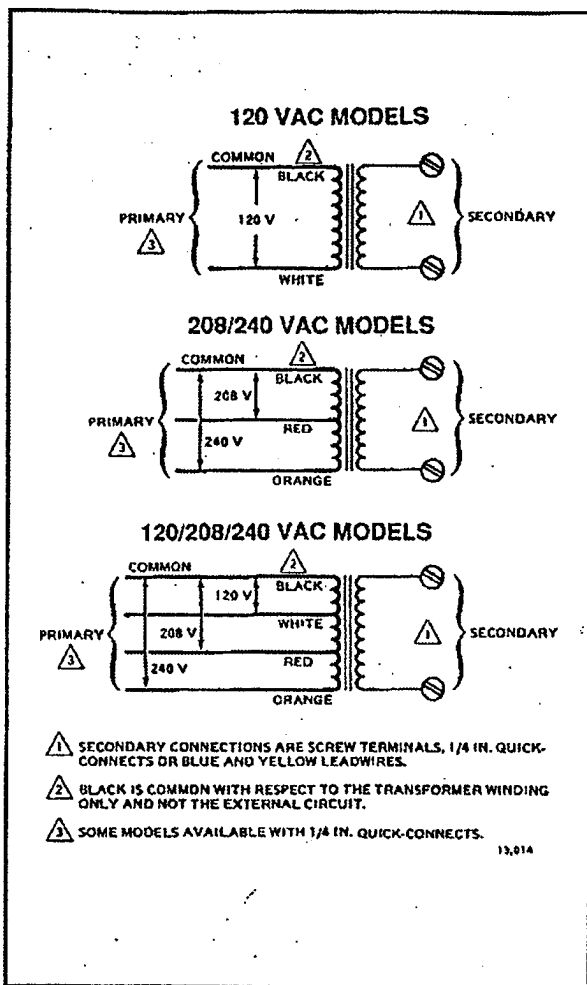

Fig. 1—Schematic for single and multitap transformers.
1. Make primary connections to line voltage power supply. On multitap model, make sure you are using correct leads or terminals for available power supply. See Fig. 1.